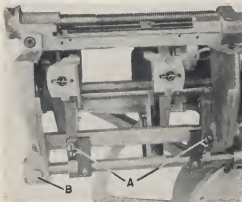
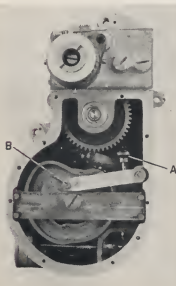

Fig. 16—Saw clamp arm adjustment.
Fig. 18—Main housing. Clutch adjustment.
The adjustment of the relative positions at the ends of the stroke, into the saw and stacking, may be made by changing the setting of the four screws (A) Fig. 16. Adjustment of these screws does not change the length of stroke, but only the relative distances of travel forward and back. The proper setting is that which will leave a space of $9/16$ inch between the saw clamp fingers when the machine has come to rest after sawing and stacking a slug. Check carefully to see that the slug is carried squarely into the saws, if any change has been
If clutch still tends to slip with all parts operating freely, it may be adjusted as follows: Remove cloth guard from attachment around right-hand side of Corrector. Remove shield over saw clamps. Take out lock-screw (B) Fig. 16, and push saw feed arm bushing out of frame, allowing shaft to clear housing cover. Remove 8 cover screws, allowing oil to drain in pan. Remove housing cover. Insert screwdriver bit between lockwasher and nut (A) Fig. 18, and turn adjusting nut in $\frac{1}{8}$ turn to tighten, allowing lockwasher finger to drop into notch in cut. Replace cover, taking
care that flat milled around hole in saw feed cross slide (A) Fig. 19, is exposed in the position shown. The pin in cam arm (B) Fig. 18 must be inserted in this hole when replacing cover. Tighten screws, start motor and allow mechanism to reach neutral, reassemble saw feed arm assembly, saw clamp guard and cloth shield. Add oil to proper point in gauge glass.